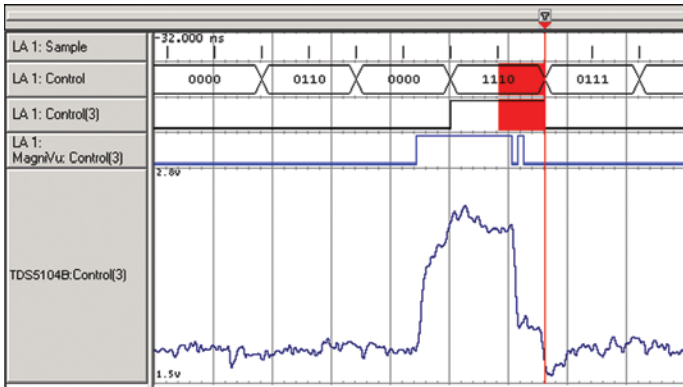

Figure 5. iView oscilloscope trace showing analog representation of Control (3) signal.
Looking at signal line Control (3), Figure 5 shows an analog iView display of the glitch. Considering both domains, it is obvious that something is distorting both the rising and falling edges of the pulse. The rising edge does not droop enough to trigger a logic transition and therefore has not appeared as a glitch. The falling edge, however, bounces high enough to pass through the logic threshold and sometimes act as a logic transition. Although the bus clock is not particularly fast, the LVPECL logic family that the circuit uses still introduces fast edges. The bouncing on the pulse edges suggests a termination problem on the circuit board magnified by the greater sensitivity of the fast edges.